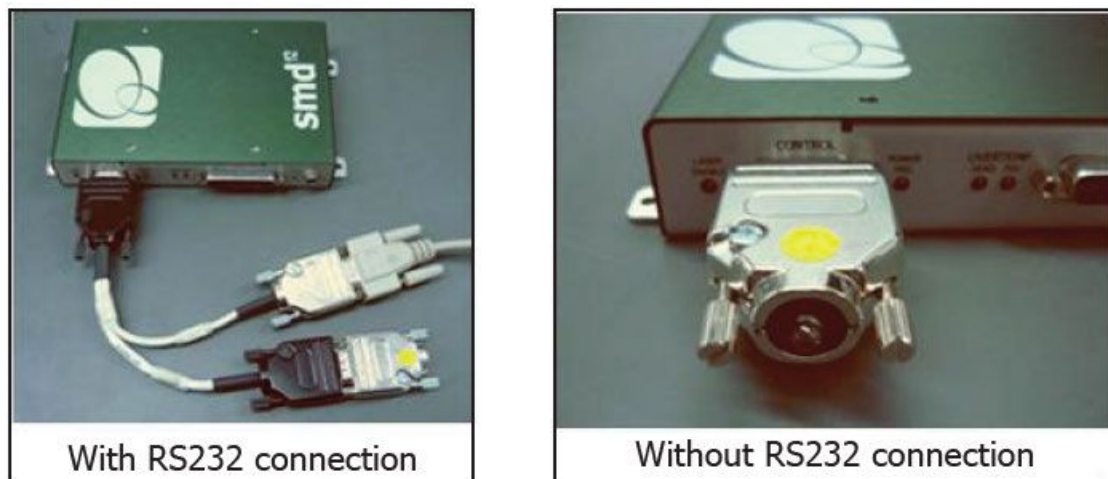

Figure 4-2
- 4 The analogue Control port (see Figure 4.2) is multi-functional as it has connections for Interlock, Enable Switch and Laser Power Control/Modulation. The Interlock must be closed to allow the laser to operate and this can be achieved using the supplied green-spot Interlock Dongle.